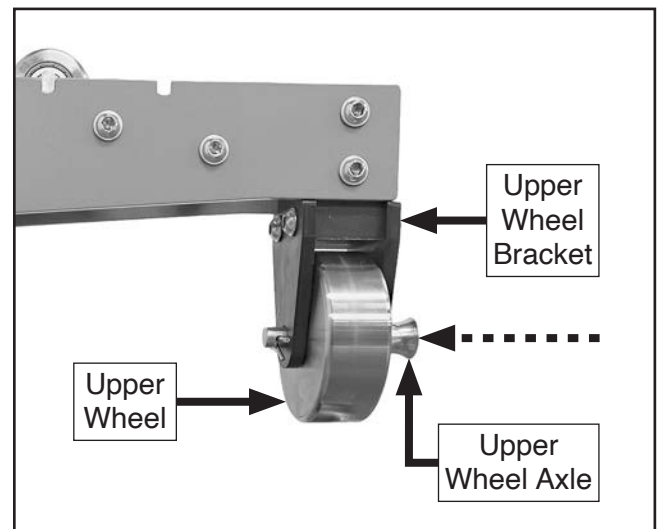

Figure 9. Upper wheel installed.
7. Hold upper wheel in upper wheel bracket, then install upper wheel axle (see **Figure 9**).